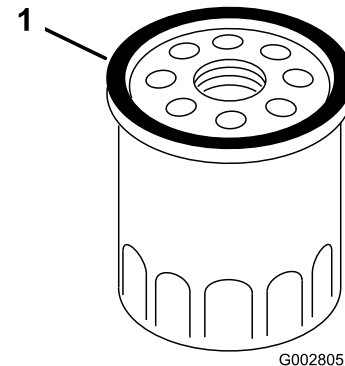

Figure 33
- Use your finger to coat the gasket on the new filter with oil (Figure 33).